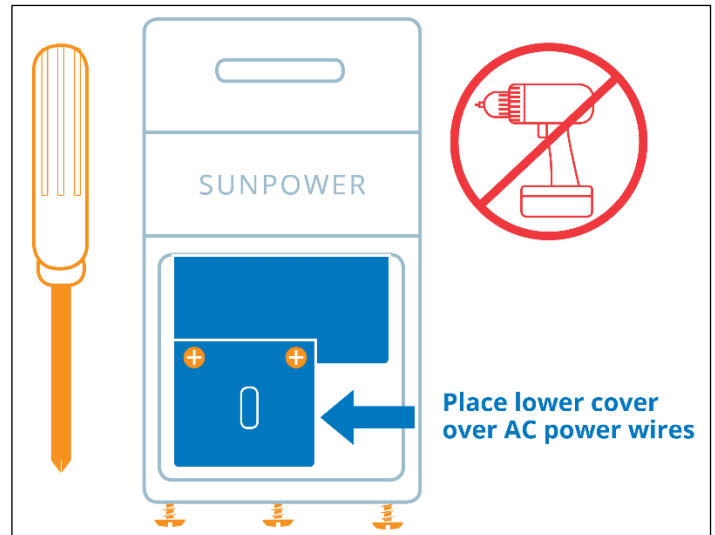

Fig. 33
2. Replace the lower AC wiring cover over the AC power wires (on the left if you routed through the left hole; on the right if you routed through the right hole) (Fig. 33).